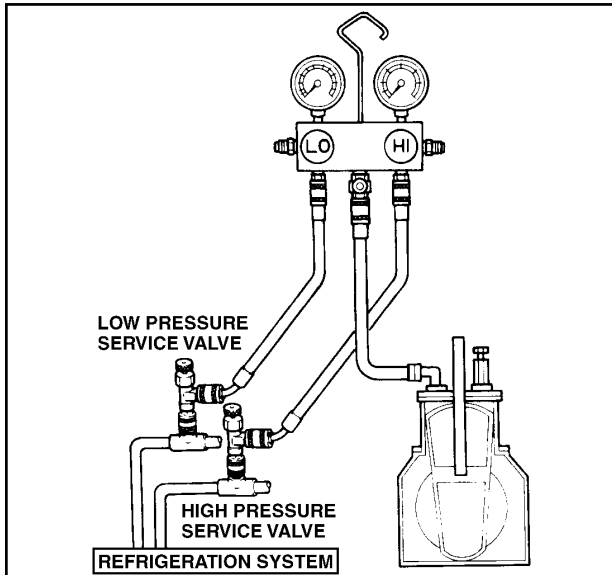

Fig. 123: System Evacuation
- 1) Connect the center hose of the manifold gauge set to the vacuum pump. (Fig. 123)